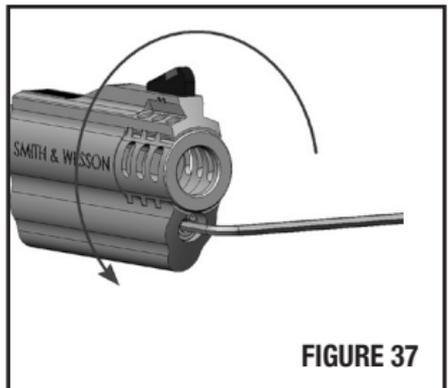

FIGURE 37
3. Insert a 2.5mm hex wrench into the screw under the compensator, (below the muzzle opening). While holding the compensator with your fingers, turn the wrench **COUNTERCLOCKWISE** until the lock screw stops (2-3 turns). **DO NOT OVER-TIGHTEN!** (FIGURE 37).